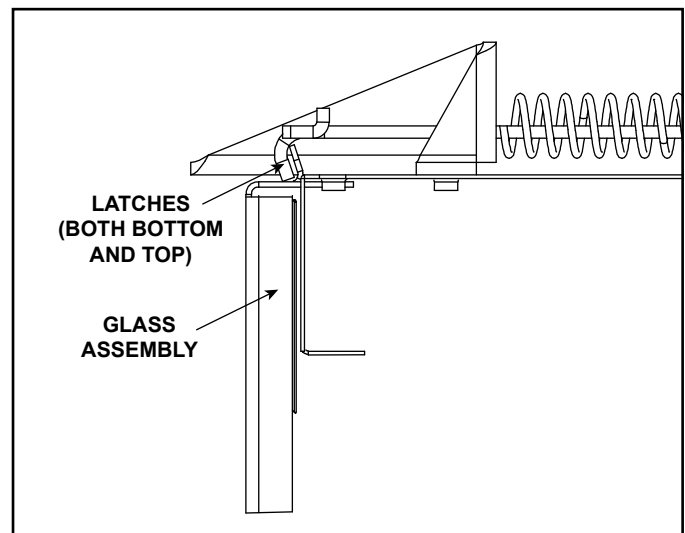

Figure 11.7 Fixed Glass Assembly
- Pull the four glass assembly latches out of the groove on the glass frame. Remove glass assembly from the appliance. See Figure 11.7.